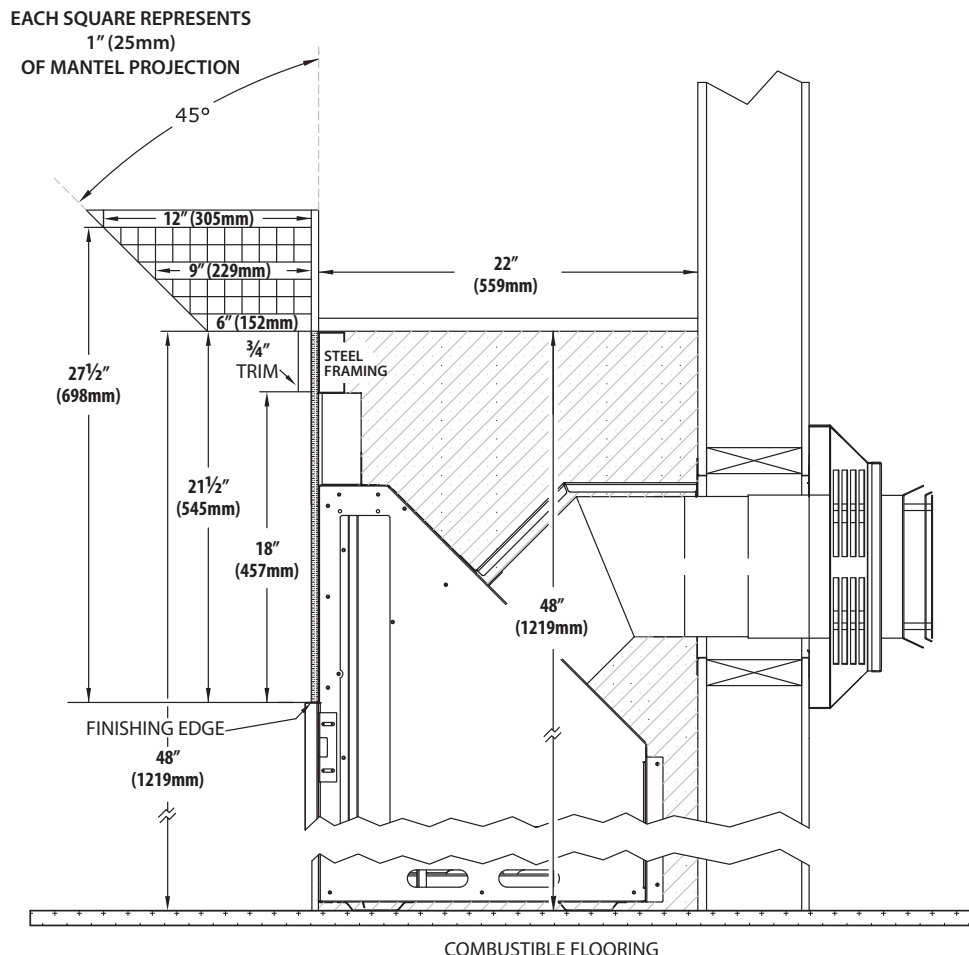

Figure 4.2, Mantel Requirements
- Combustible Mantel Projections - As referenced in Figure 4.2, the 3/4" trim can start at 18" (457mm) above the finishing edge with a 6" (152mm) mantel starting at 21-1/2" (545mm) above the finishing edge. Mantel projections can increase 1" (25mm) of depth for every 1" (25mm) of height starting at the 6" (152mm) mantel.